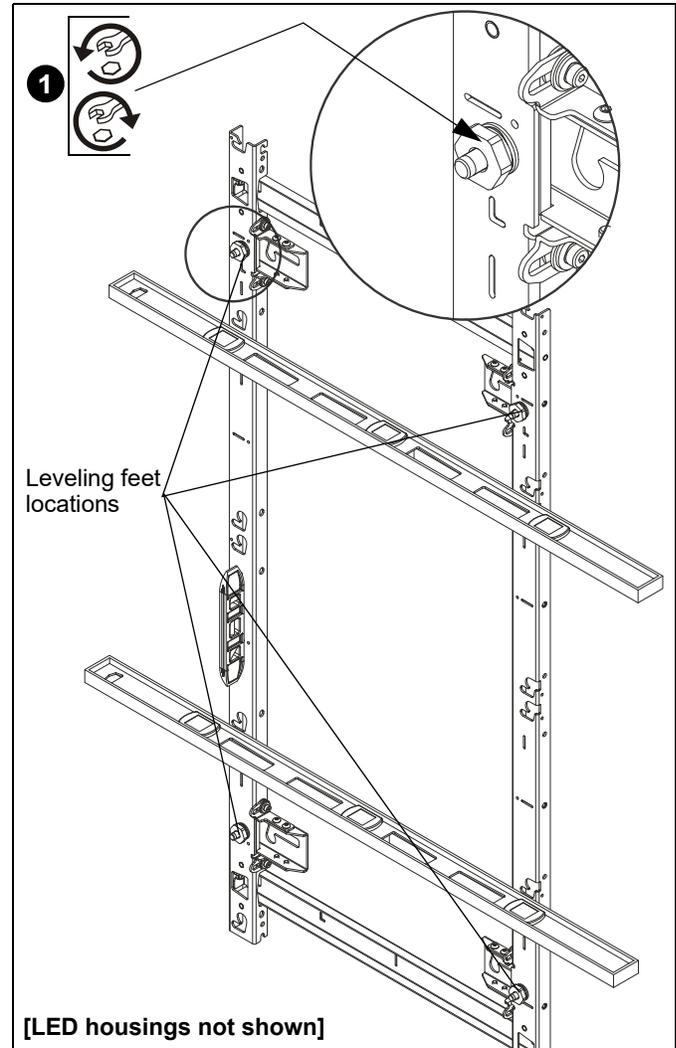

Figure 17
1. Using a level on the front of the housings in various places, loosen or tighten the leveling feet adjust bolt (using a 1" socket and T-handle driver) to assist in leveling the LED housings across the various wall mounts until plumb. (See Figure 17)